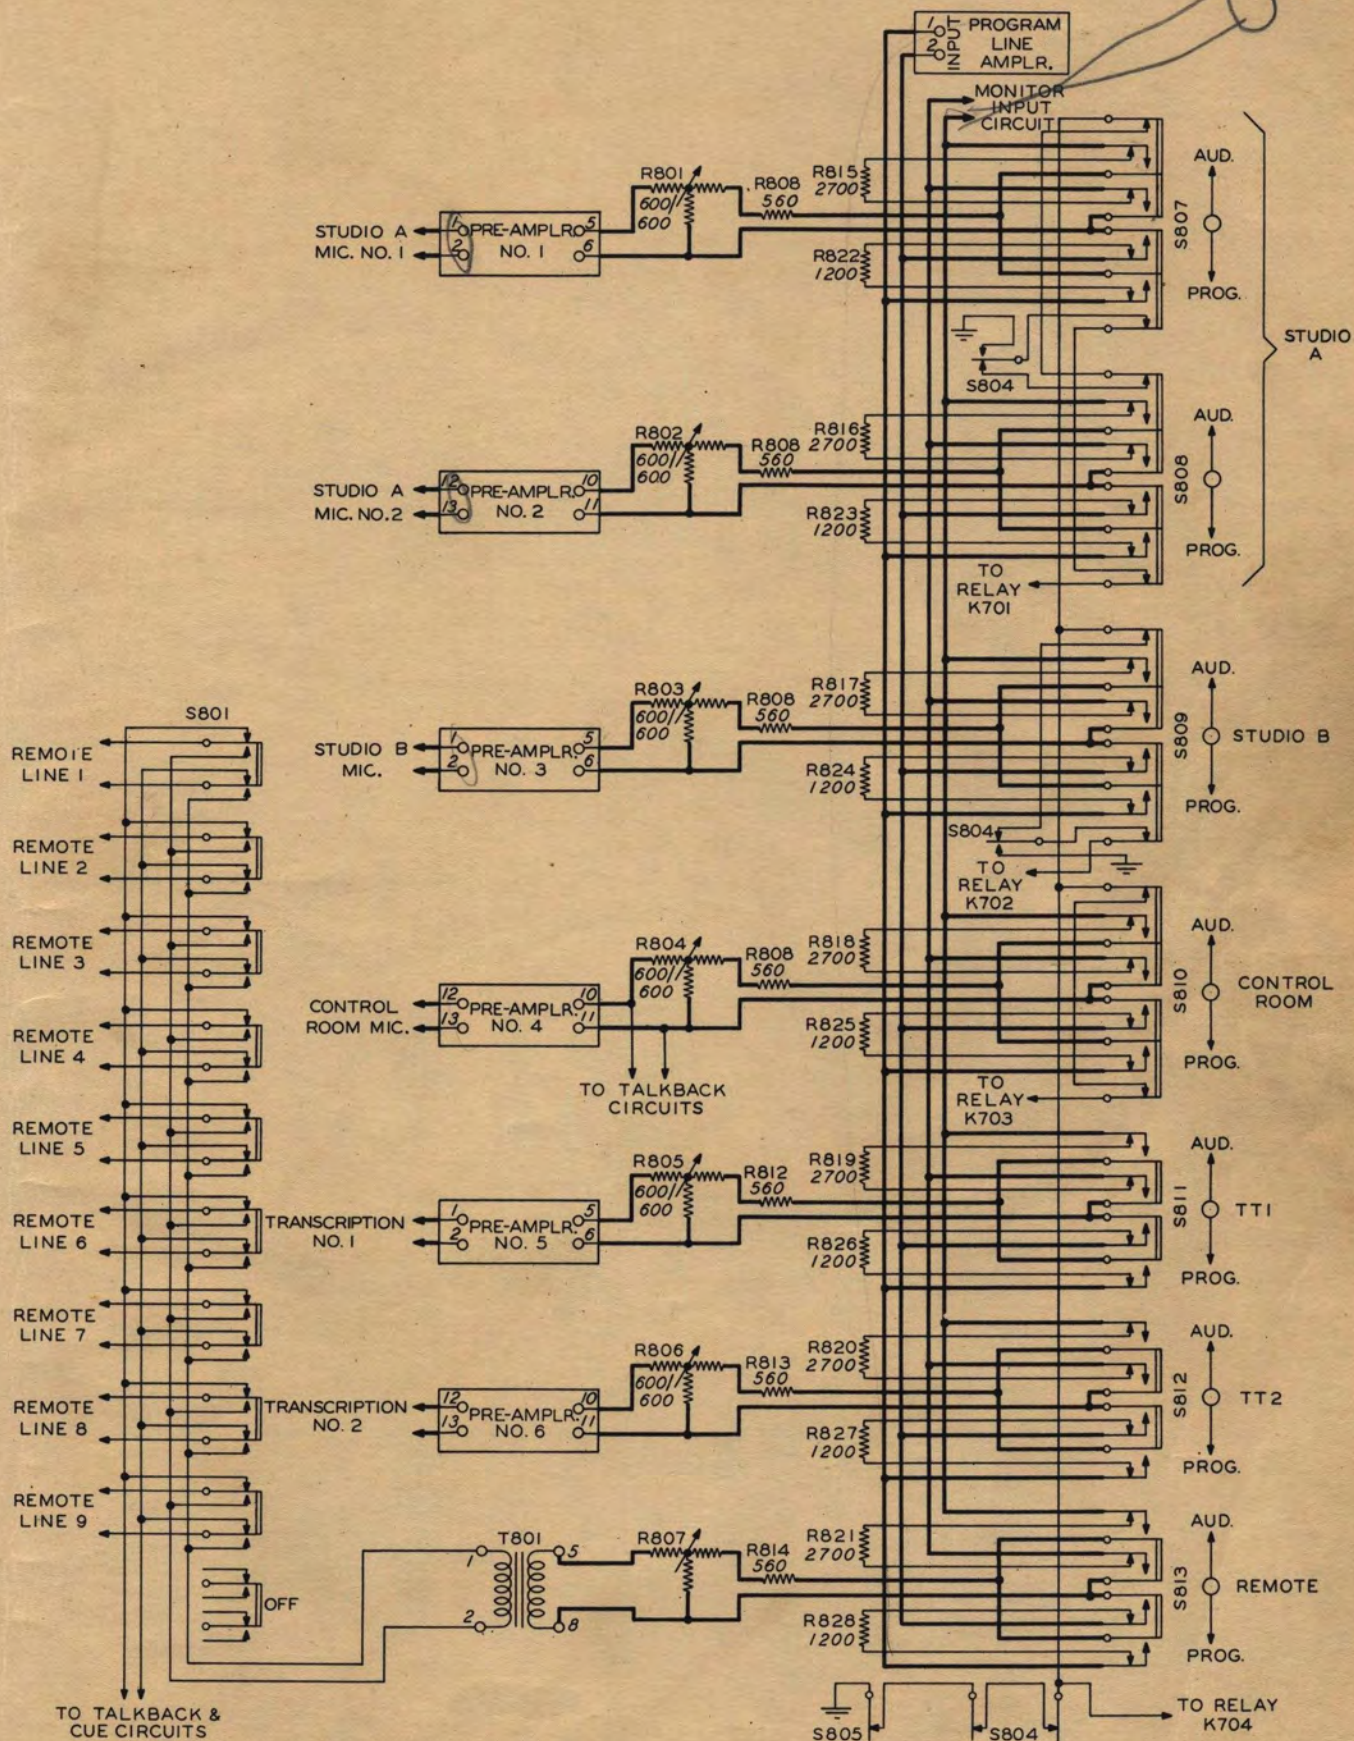

Figure 2-4 Mixer Circuits
(6) MIXER CIRCUITS. - Refer to figure 2-4. Seven independent input circuits are incorporated in the console. Four are low level microphone inputs (approx. -60 db) each having an individual two stage per mixer amplifier. Two are transcription inputs and are connected through